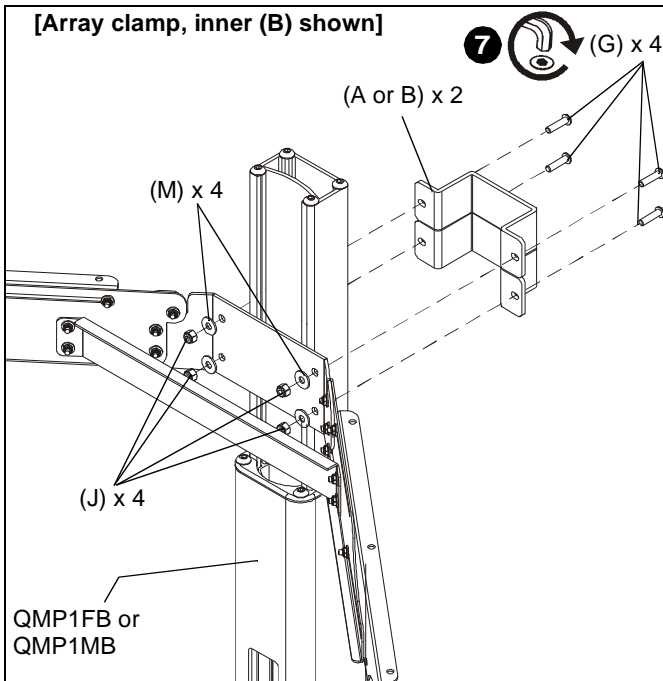

Figure 4
- Array clamp, outer (A) is used to attach keyboard shelf to OUTER column of cart/stand (below adjustment knob).
- Array clamp, inner (B) is used to attach keyboard shelf to INNER column of cart/stand (above adjustment knob).
- Attach two array clamps (A or B) to bracket assembly using four 1/4-20 x 1" button head cap screws (G), four #24 flat washers (M) and four 1/4-20 nylon lock nuts (J). (See Figure 4)